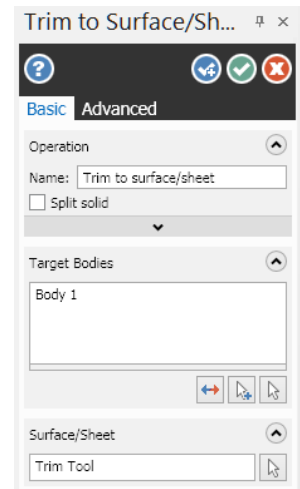

Fig. 22
Step 4. Click OK  in Trim to Surface/Sheet function panel, **Fig. 22**.